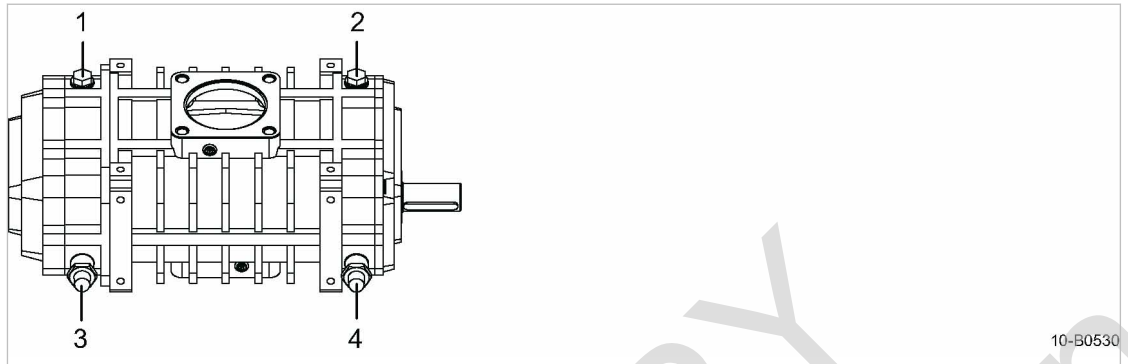

Fig. 28 Replenishing lubricating oil
2. Open the filler plugs at the oil inlet of the blower block (1) and (2) (Fig. 28).
3. Take off the caps (1) and (2) and open the oil drain taps (3) and (4).
3. Close the oil drain taps (3) and (4).
4. Check the oil level in both sight glasses (Fig. 28) and top off as necessary.
5. Screw on the caps (1) and (2).